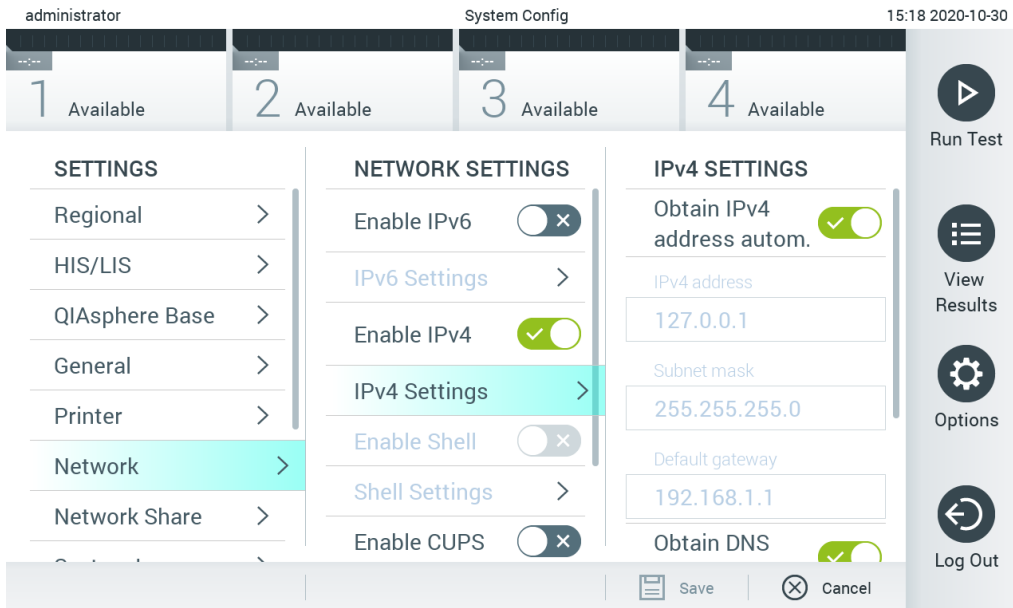

Figure 75. Configuring the network settings.
2. Select **Network** from the settings list in the left column (Figure 75).